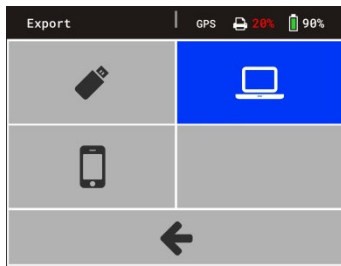

Figure 26
- Select within measuring instrument under menu measured data  / export  the transfer mode  (Figure 26) and confirm with  key.